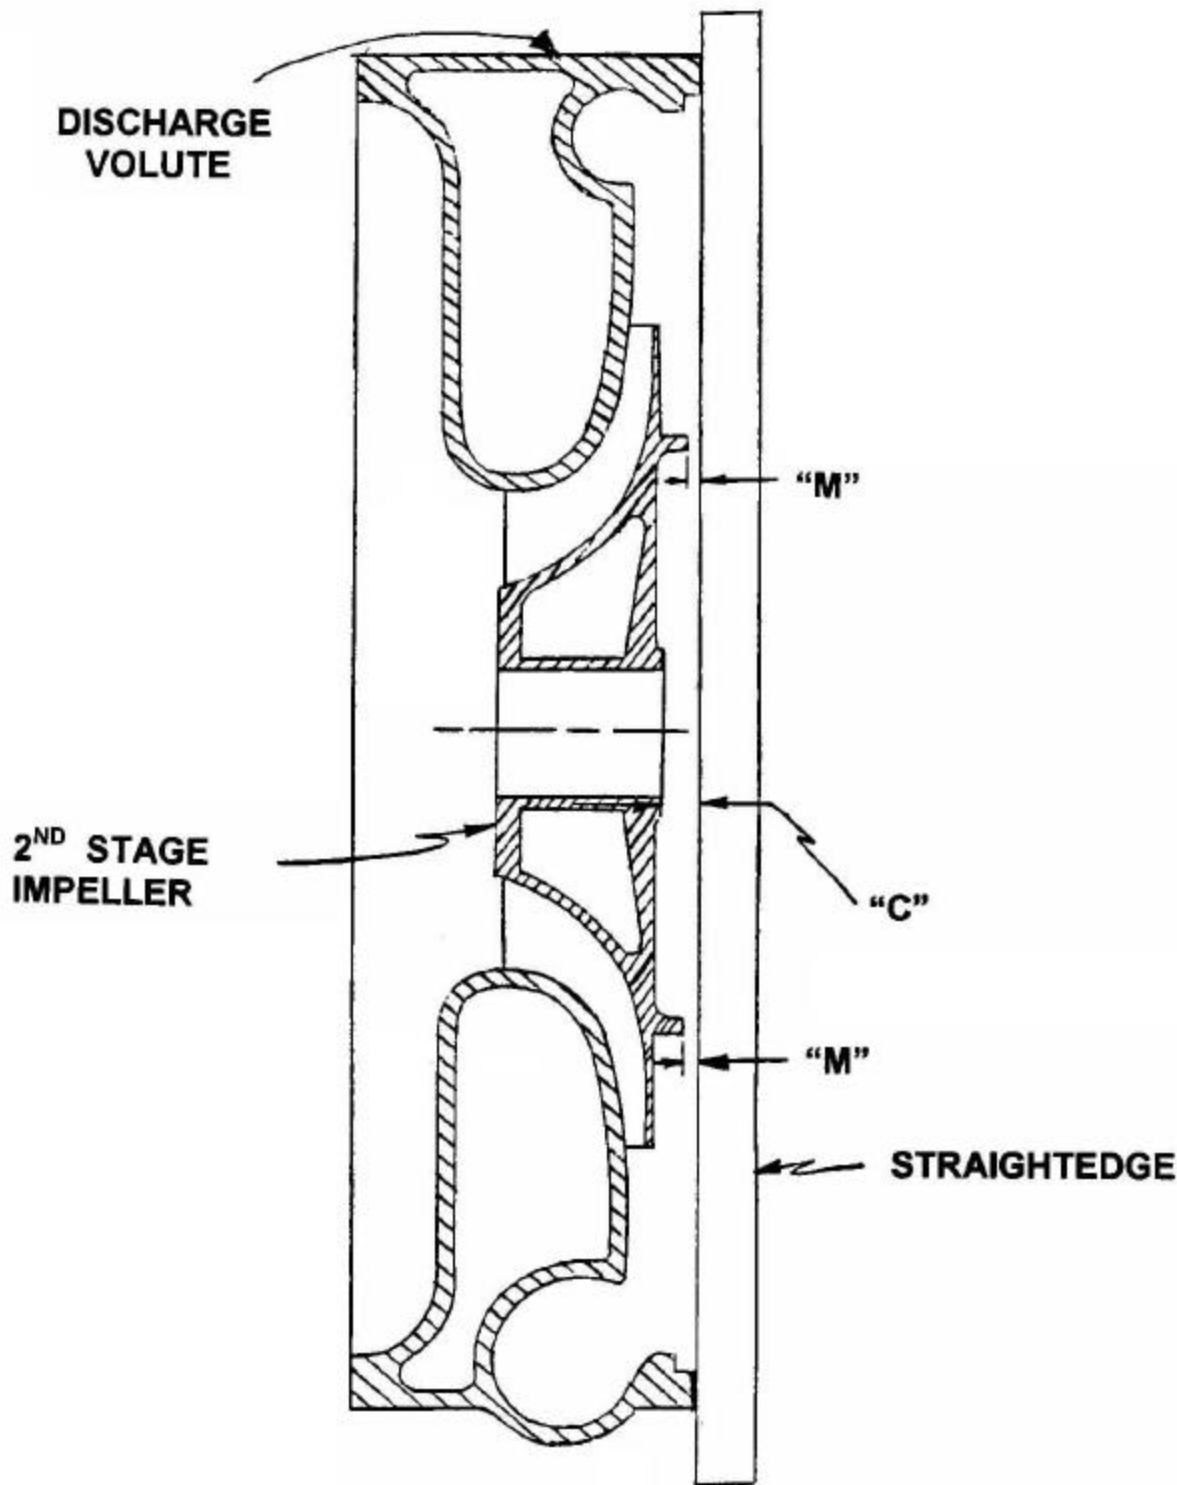

FIGURE 2
- f) Place the discharge volute face down on the floor and place the 2nd stage impeller inside the volute as shown in Figure 2. Center the impeller by repositioning the straight edge and checking dimension "M" in several places. Dimension "M" should be the same all around within .003".